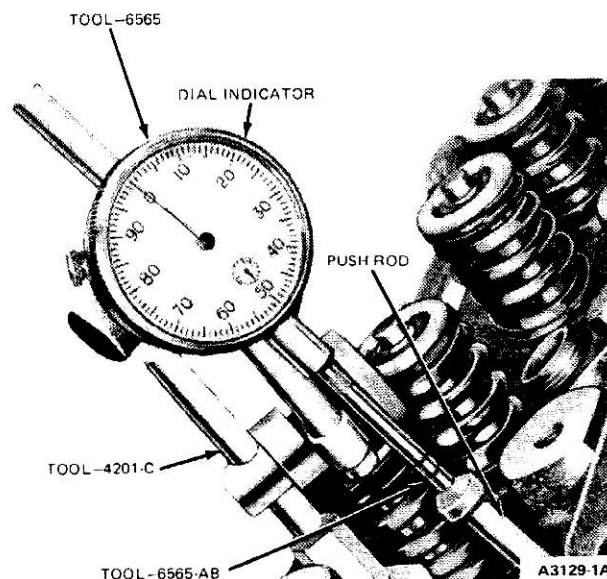

FIG. 4 Testing Camshaft Lobe Lift—Rocker Shaft Mounted Rocker Arms
3. Make sure the push rod is in the valve lifter socket. Install a dial indicator in such a manner as to have the ball socket adapter of the indicator on the end of the push rod and in the same plane as the push rod movement (Fig. 4 or 5).